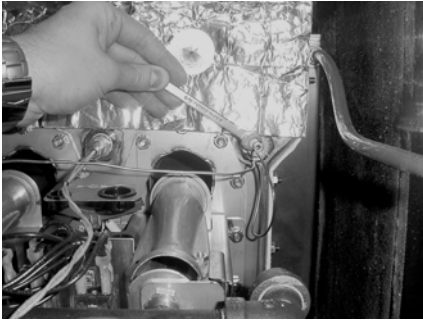

Figure 2-6
4. Using a 5/16" wrench, loosen small inside screw nut on capillary tube. Figure 2-6.